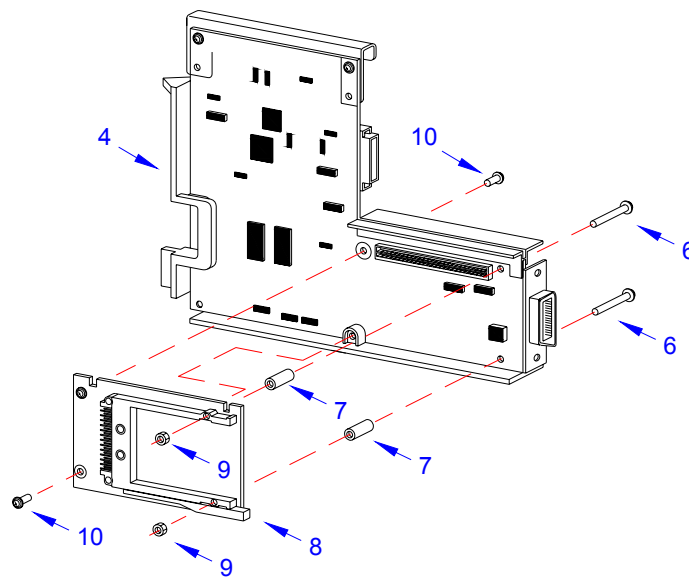

Figure 4-4b, Memory Expansion
8 Insert two long screws (6, Figure 4-4b) into main circuit board (4) from the front.